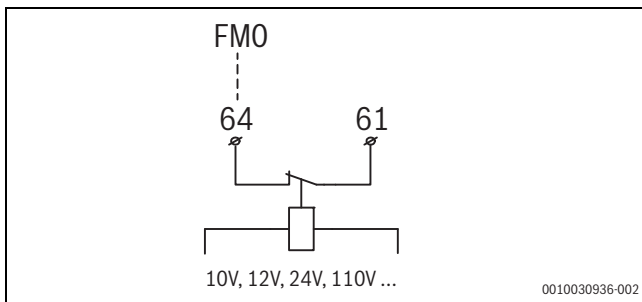

Fig. 31 Connection for external booster heater without 230 V alarm output
- ▶ Connect alarm signal as shown in Fig. 31 to the installer module at terminal **FMO**.